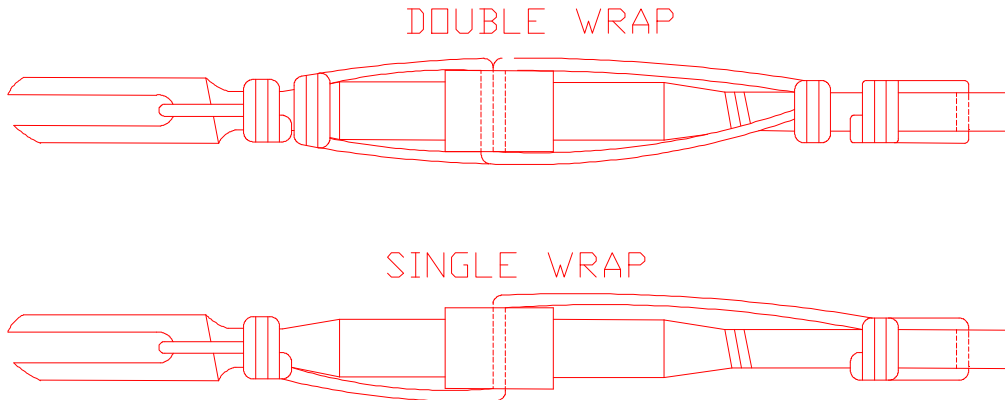

Figure 1.40.1
**Double Wrap Method:** Of the methods using safety wire for safeying turnbuckles, the method described here is preferred, although either of the other methods described is satisfactory. The method of double wrap safeying is shown in Figure 1.40.1. Use two separate lengths of the proper wire. Run one end of the wire through the hole in the barrel of the turnbuckle and bend the end of the wire towards opposite ends of the turnbuckle. Then pass the second length of the wire into the hole in the barrel and bend the ends along the barrel on the side opposite the first. Spiral the two wires in opposite directions around the barrel to cross each other twice between the center hole and the ends. Then pass the wires at the end of the turnbuckle in opposite directions through the holes in the turnbuckle eyes or between the jaws of the turnbuckle fork, as applicable, laying one wire along the barrel and wrapping the other at least four times around the shank of the turnbuckle and binding the laid wires in place before cutting the wrapped wire off. Wrap the remaining length of safety wire at least four turns around the shank and cut it off. Repeat the procedure at the opposite end of the turnbuckle.